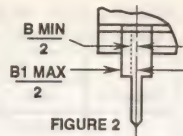

FIGURE 2
- Corner leads (1, N, N/2 and N/2 + 1) may be configured as shown in Figure 2.
9. Corner leads (1, N, N/2 and N/2 + 1) may be configured as shown in Figure 2.